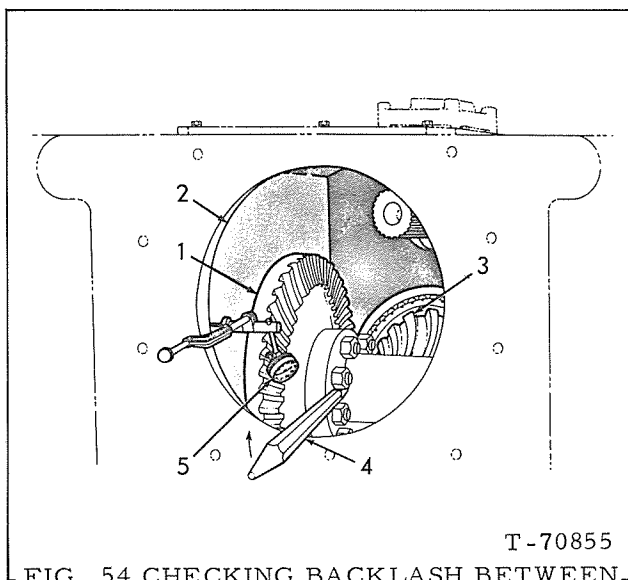

FIG. 54 CHECKING BACKLASH BETWEEN—
- a. Refer to Fig. 54 and position a dial indicator as shown. Block bevel pinion solid. Insert a small pry bar and rotate gear back and forth; the total gear movement, as indicated by reading on dial indicator, is the backlash. Check backlash at several points around the gear; block bevel pinion solid each time.